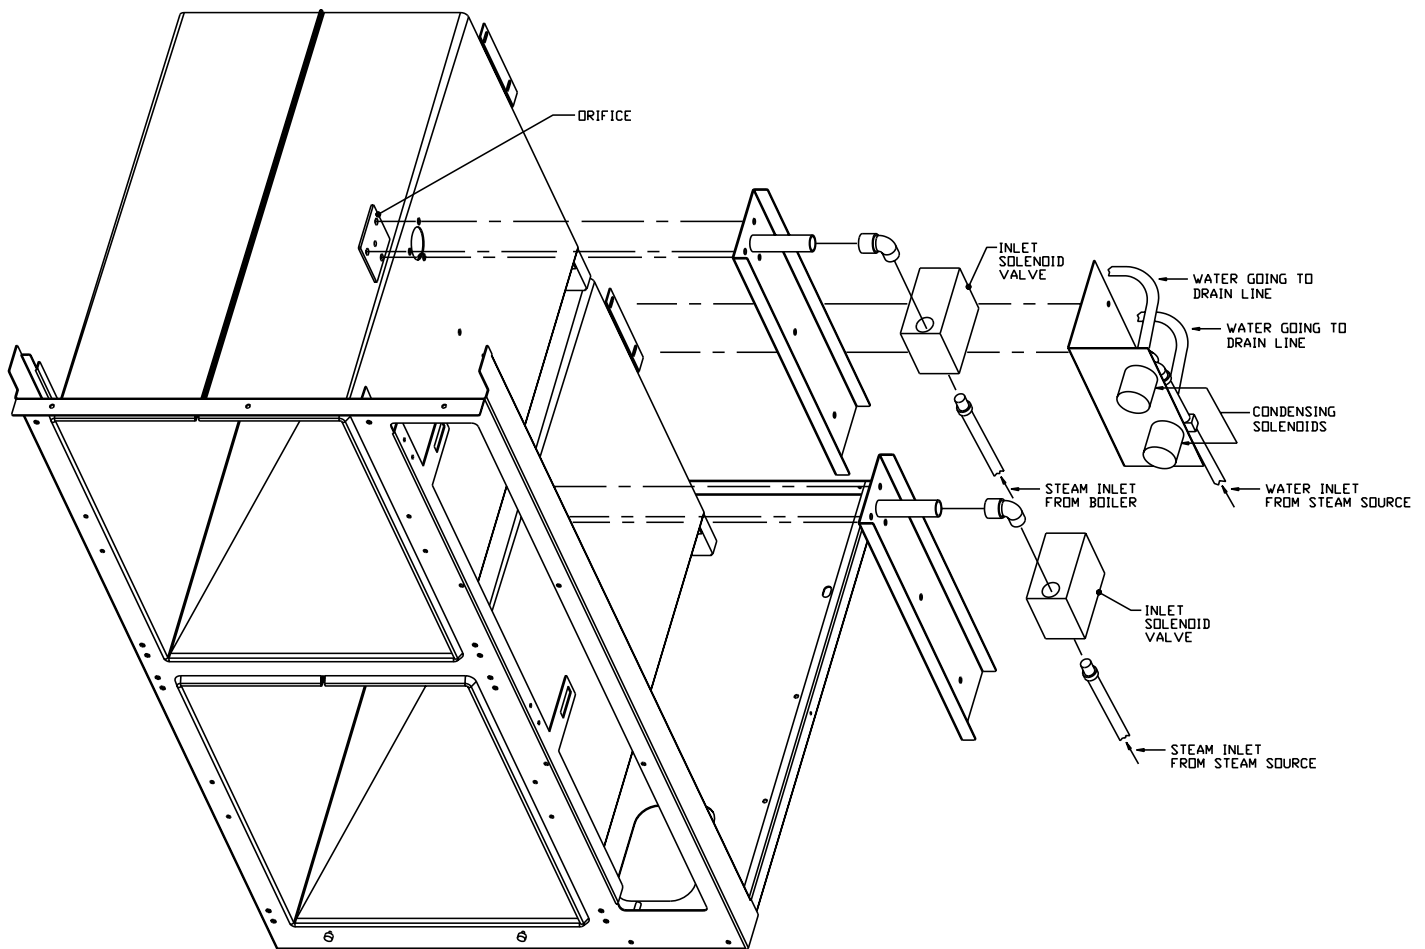

Fig. 2 Pictorial Diagram, Steam and Water Circuits
these circuits is shown in Fig. 2 on page 5.
NOTE: Fig. 2 is strictly a pictorial schematic diagram and is not intended to show the actual configuration of the plumbing. All components are shown in correct relationship with each other. However, the diagram does not show their actual locations or position within the cooker.
2. Disconnect all five wires from timer terminals. (see Fig. 2, page 11).
7. Remove ohmmeter and replace all five leads on timer terminals as shown in Fig. 2 on page 11.
5. Remove the ohmmeter and replace the leads on switch terminals (*see Fig. 2, page 11*).
2. Disconnect wires to the door switch terminals (*see Fig. 2, page 11*).